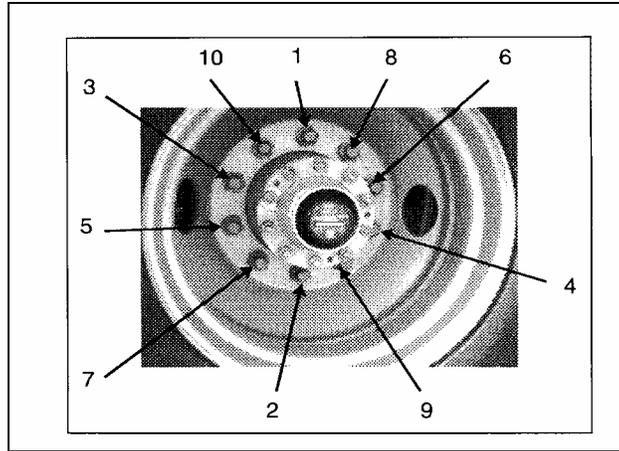

FIGURE 8: TIGHTENING SEQUENCE
21. Reinstall splash guards and wheels. Torque wheel nuts to 450 - 500 lbf•ft (610 - 680 N•m) using tightening sequence indicated on figure 8.